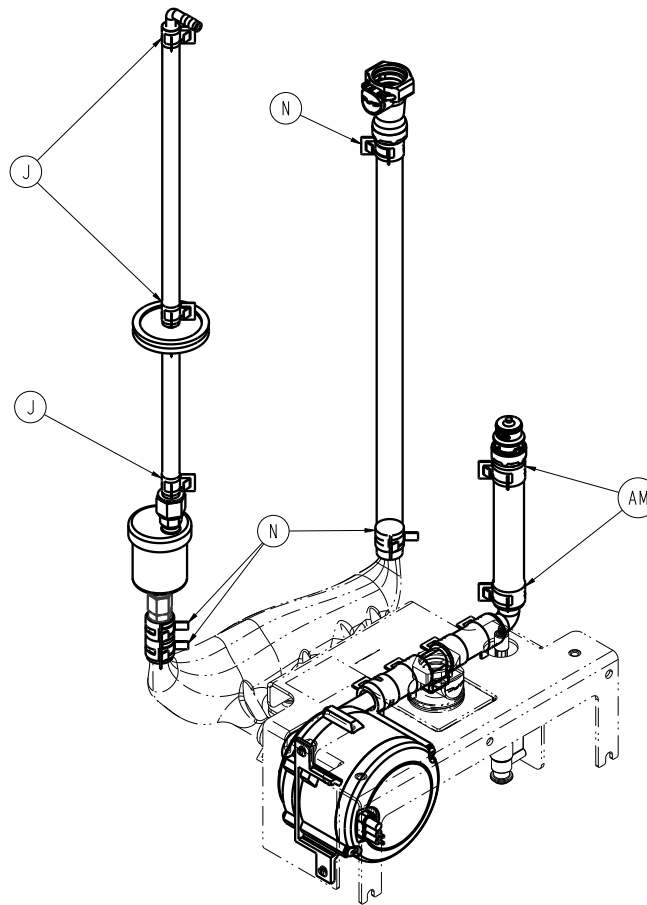

Figure 20 – Secure tubing
5. Using needle nose pliers, remove the 2 hose clamps (N) that secure the tubing to the reservoir (Figure 20).